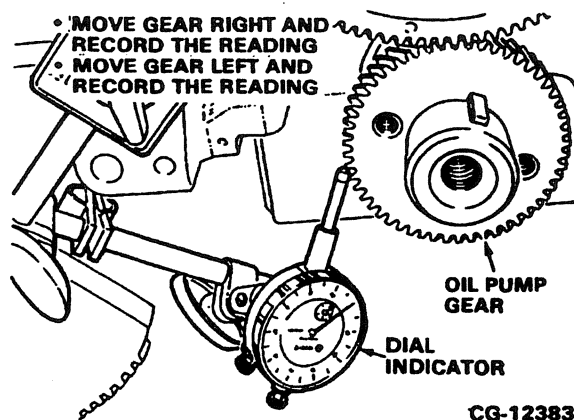

Figure 8.8. Check Oil Pump Drive Gear to Crankshaft Gear Backlash
5. Prior to oil pump removal, check and record oil pump drive gear to crankshaft gear backlash as follows: (Refer to **Figure 8.8.**)